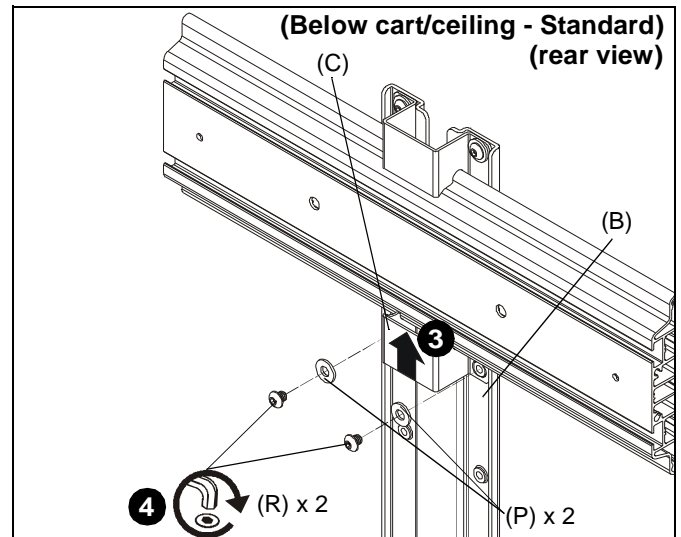

Figure 10
3. Slide second support bracket (C) underneath cart/ceiling mount head assembly, lining up holes on support bracket (C) to holes on main bracket (B). (See Figure 10)
4. Use two 1/4-20 x 1/4" button head cap screws (R) and two large washers (P) to secure support bracket (C) to main bracket (B). (See Figure 10)